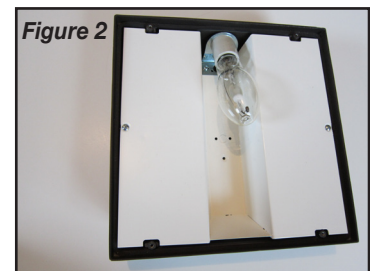

Figure 2
- 2) Using a #2 Phillips screwdriver, remove the four enclosure screws and open the enclosure cover. The fixture should now appear as in FIGURE 2.
- 3) Starting with lamp, remove white cover, shown in FIGURE 2, by removing the two screws. Now remove lamp holder, capacitor, igniter, transformer and wiring from inside the lamp leaving the green ground wire attached to the case. Leave at least 4" of the branch circuit inside the luminaire for connection to the retrofit kit. See FIGURE 3.